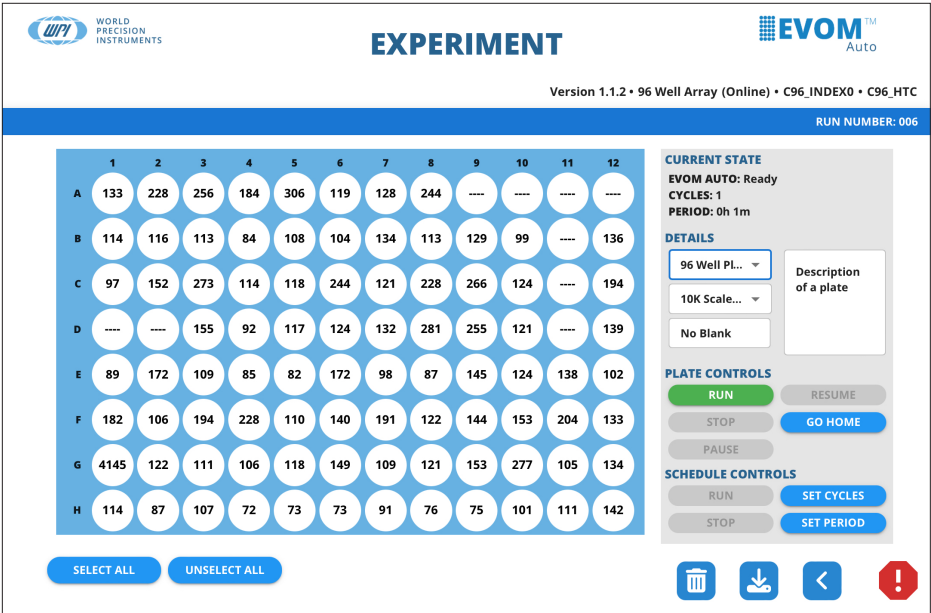

Fig. 47—The *Experiment* window appears. This example shows a 96-well plate option.
- 1. Select *Experiment* from the main menu. The *Experiment* window appears (Fig. 47).